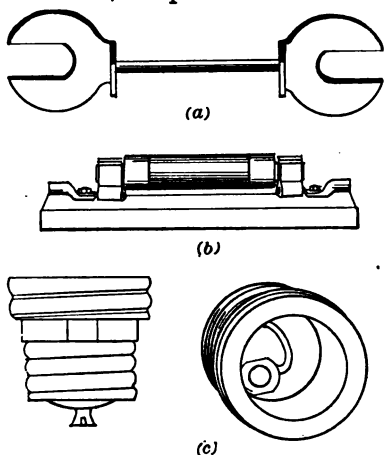

FIG. 291. — Fuses: (a) wire fuse; (b) cartridge fuse; (c) plug fuse.
**330. Fuses and circuit breakers.** To protect electrical machines from too much heat caused by excessive current, some sort of “electrical safety valve” has to be inserted in the circuit. Fuses are used for the small currents in house lights and small motors, and circuit breakers for larger currents in power stations. The essential part of a fuse is a strip of an alloy [Fig. 291 (a)], which melts at such a low temperature that the melted metal can do no harm. The size of the fuse
is such that if by accident too heavy a current is sent through the wires, the fuse melts and breaks the circuit. At the moment the fuse melts there is an arc across the gap which might set things on fire. So the fuse is commonly inclosed in an asbestos tube, as in the "cartridge fuse" [Fig. 291 (b)], or in a porcelain cup, which screws into a socket like a lamp, as in the "plug fuse" [Fig. 291 (c)]. When the fuse wire melts because of excessive current, the fuse is said to "blow out."